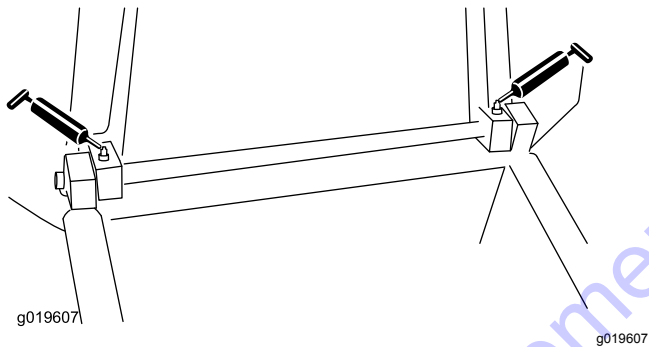

Figure 16
- Hopper pivot points (Quantity 2)—Figure 16